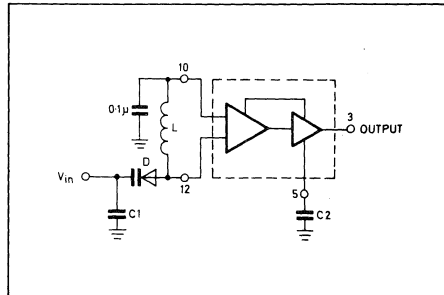

Fig. 5 The SP1648 operating in the voltage-controlled mode
When operating the oscillator in the voltage controlled mode (Figure 5), it should be noted that the cathode of the varactor diode (D) should be biased at least $2 V_{BE}$ above V_{EE} (≈ 1.4 V for positive supply operation).
Capacitors (C1 and C2 of Figure 5) should be used to bypass the AGC point and the VCO input (varactor diode), guaranteeing only dc levels at these points.